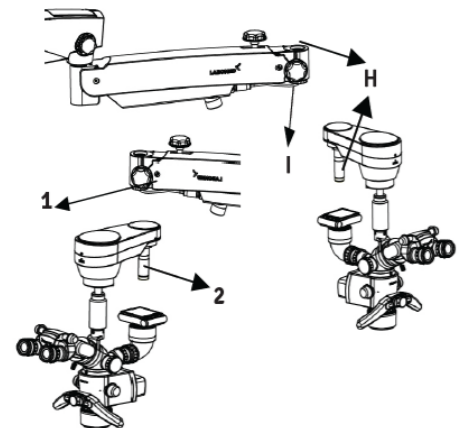

Fig. 32
9. Open another box and take out the carrier assembly from its packaging following arm as shown in Fig. 32.
- a. Insert the Auto Balancing Arm (ABA) shaft (H) into the suspension arm as shown in Fig.-32 .
- b. Lock the auto Balancing Arm (ABA) with the threaded Knob (I) as shown in Fig.- 32.
- c. Make sure the safety screw (1) is installed and tightened at position (2) so the coupling does not detach if knob (I) is accidentally unscrewed.